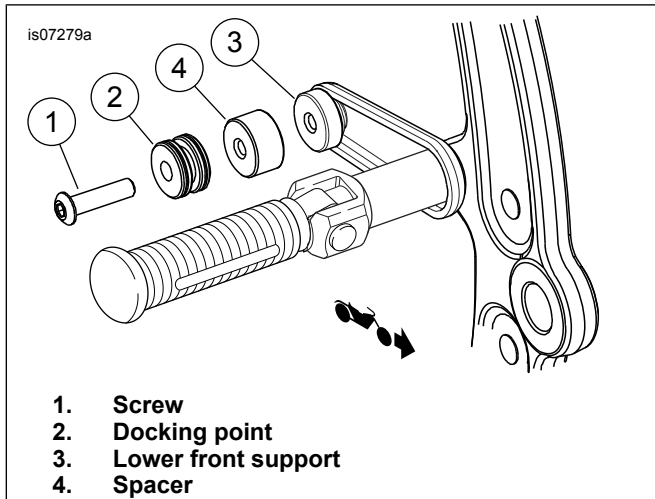

Figure 6. Lower Front Docking Point (With Other Detachable Accessories)
1. See Figure 6. Install lower front saddlebag support assembly (3).
2. Install mini docking point (2) and spacer (4) onto screw (1).
4. Install screw (1) into the threaded hole of lower front support (3). Tighten screw to 16.3–24.4 N·m (12–18 ft-lbs).